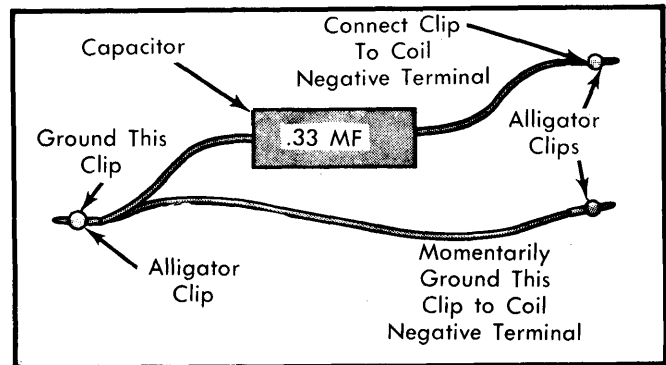

Fig. 6 Special Jumper Wire Assembly for Grounding Coil Negative Terminal
2) Remove coil secondary wire from distributor cap and hold 1/4" from a good ground. Prepare a special jumper wire assembly as shown in Fig. 6. With ignition switch on, momentarily touch special jumper wire to ground and coil negative terminal. A spark should be obtained at secondary wire.